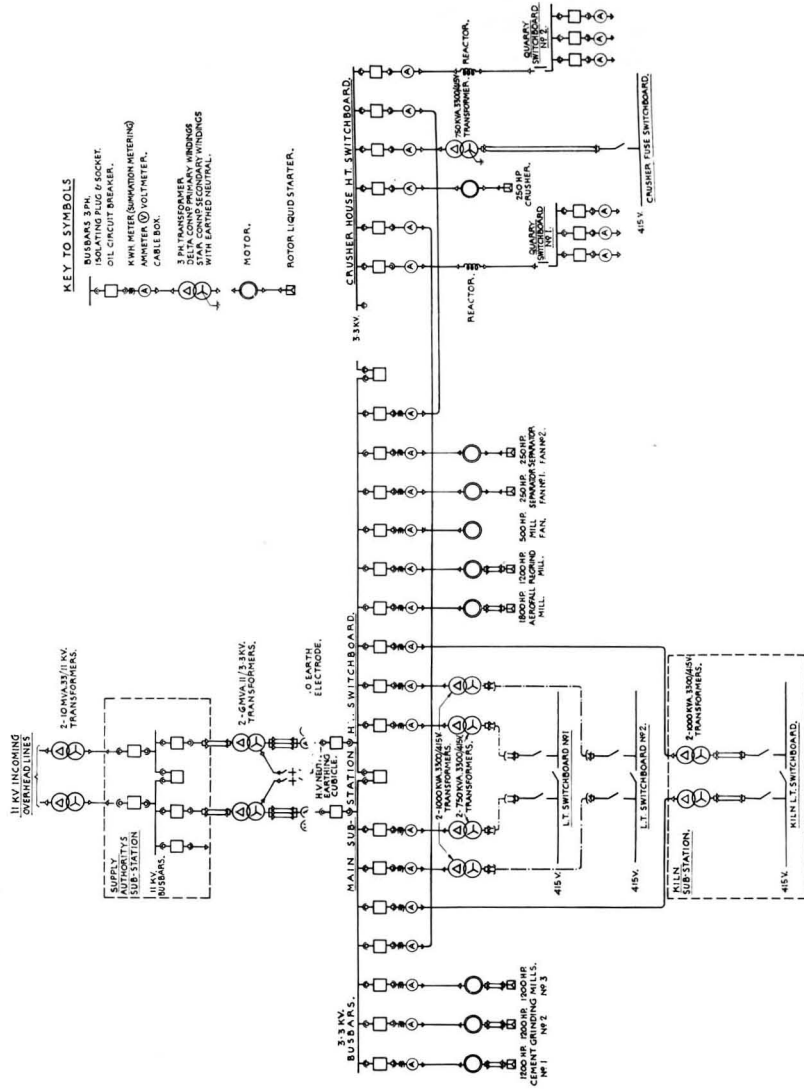

Fig. 1.—Typical Distribution System.
*Fig. 1* is a line diagram of a typical 3.3-kV. and 415-V. distribution system. It will be seen that the high-tension supply is distributed from the main works substation to several section substations. In all of them adequate enclosure for the exclusion of dust, which is always present in some degree even in the most well-run works, is of paramount importance.